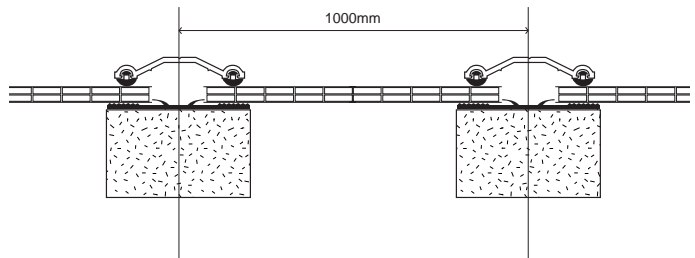
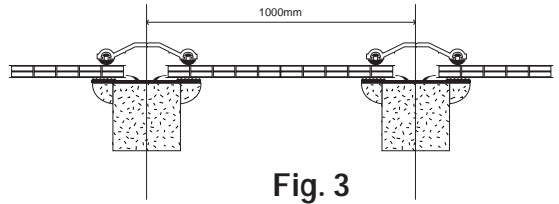

Fig. 2
Fig. 3
Step 1: Measure and set out where the rafters and if they are going to be used, purlins are going to lie. 60mm wide rafters are normal when using the 226/261 system. 16mm sheet can be accommodated on centres no more than 1000mm apart (Fig. 2), whereas the glazing centres for 25mm sheet can be extended to 1250mm. If 50mm wide rafters are already in place, you must pin a 5mm or 6mm quadrant to each side of the rafter, so turning it into a 60mm rafter. (Fig. 3) or alternatively use the 227 aluminium base or the 500 system if glazing with 10mm twinwall polycarbonate.